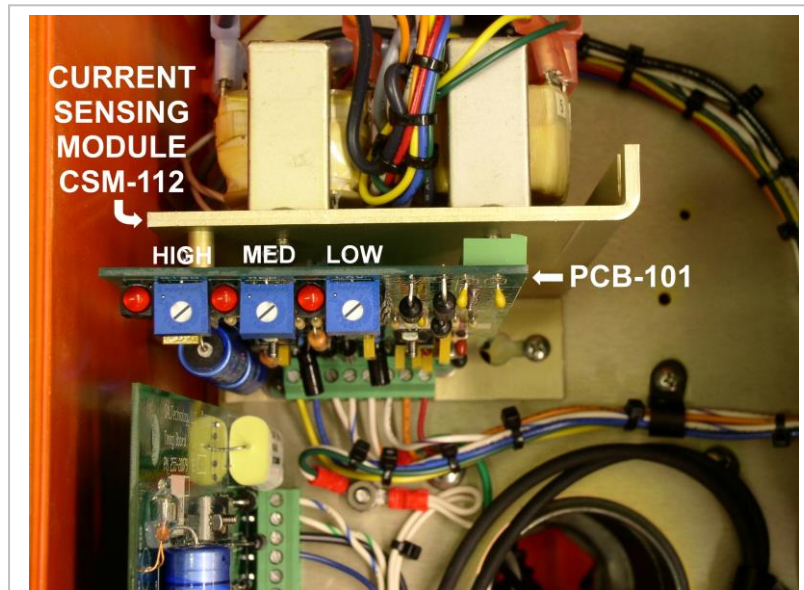

Figure 7
It is likely that the switching levels will have to be fine tuned upon installation due to specific conditions at your site such as the type of CCR in use and other loads that may be driven by the same CCR. Adjustments are made at the CSM-112 Current Sensing Module in the Master Unit (Figure 7).
3. At PCB-101, (See Figure 7) adjust all three potentiometers, LOW; MED; & HIGH, fully counter clockwise (CCW).
3. At PCB-101 (See Figure 7), adjust all three potentiometers, LOW; MED; & HIGH, fully counter clockwise (CCW).
3. At PCB-101, (See Figure 7) adjust the HIGH potentiometer fully clockwise, and LOW & MED potentiometers fully counter clockwise (CCW).